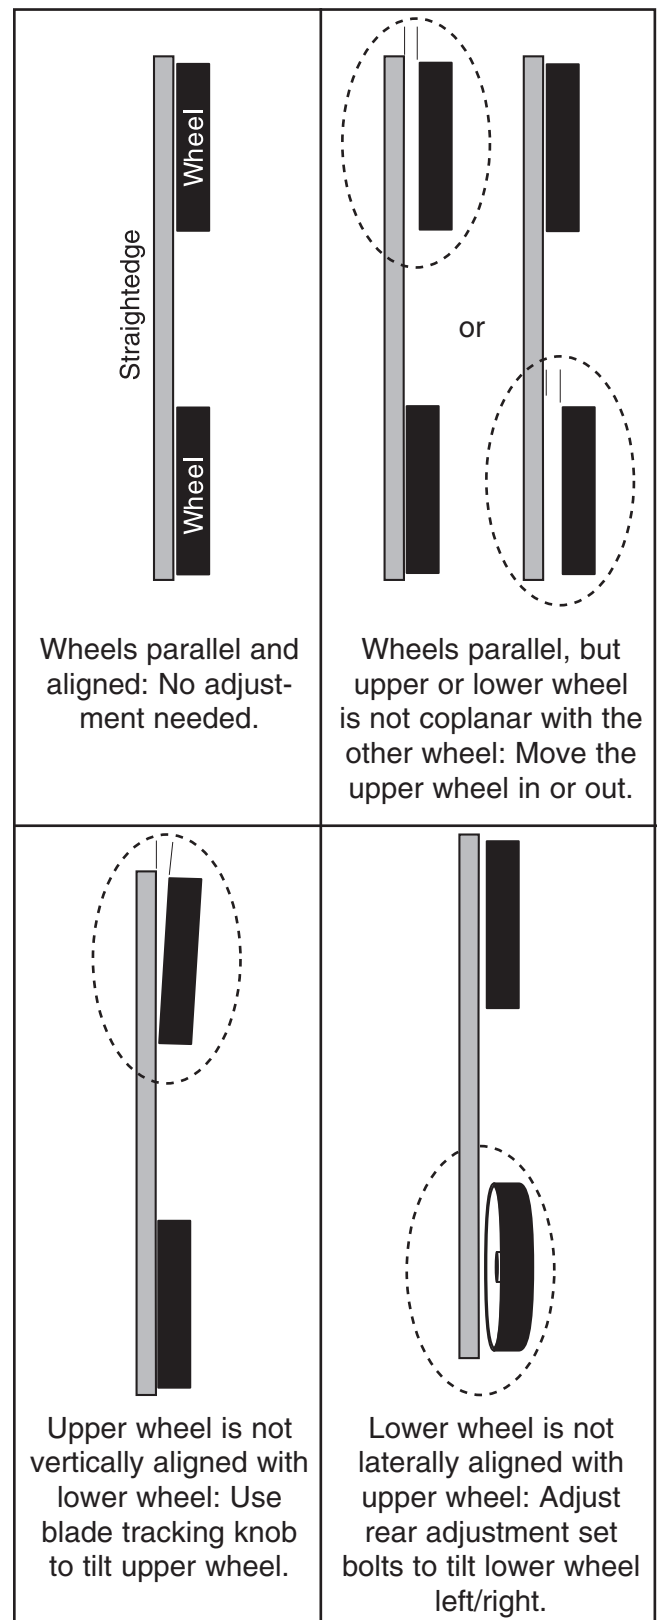

Figure 54. Wheel alignment illustration.
4. Check wheel alignment, and adjust tracking knob to bring both wheels into alignment as much as possible. If wheels cannot be adjusted coplanar, use **Figure 54** to determine how to proceed with alignment adjustments.